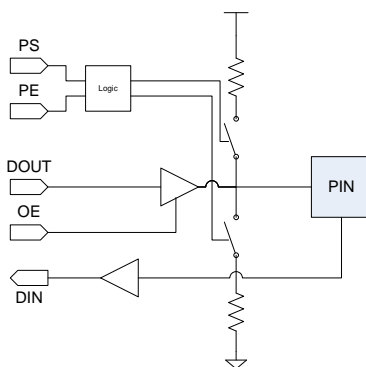

Figure 6-1 GPIO Structure
The structure of the GPIO pads is shown in Figure 6-1. Configuration registers allow the user to control pull-up and pull down resistors, enable the pin as an output or set the output value. See Section 12.3 for details on the configuration options. The AF0 and AF1 bits associated with each pin determine its functionality as shown in Table 6-1. When the GPIO is selected for its alternate function, the DOUT and OE connections to the pin are driven by sources other than the DOUT and OE registers. The alternate functions of each pin are summarized in Table 6-2. In addition, the Slave Select Bar pin (SSB) when driven active low will force GPIO0-2 into alternate function mode to allow an SPI transaction. Note that the pull selects (PS) and pull enable (PE) bits continue to function in alternate function mode – it is possible to connect or disconnect pull devices to the pin even in alternate function mode.